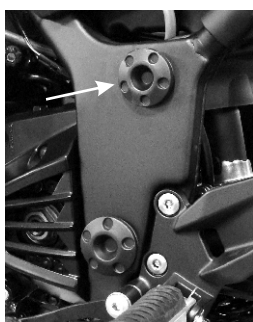
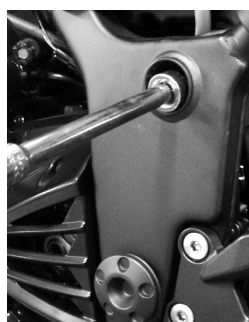

Figure 3
Figure 4
4. Remove upper shock bolt covers (both sides) to gain access to your upper shock nut & bolt (see figure 3). Then, using the proper sockets and extensions, remove the top nut & bolt (figure 4).